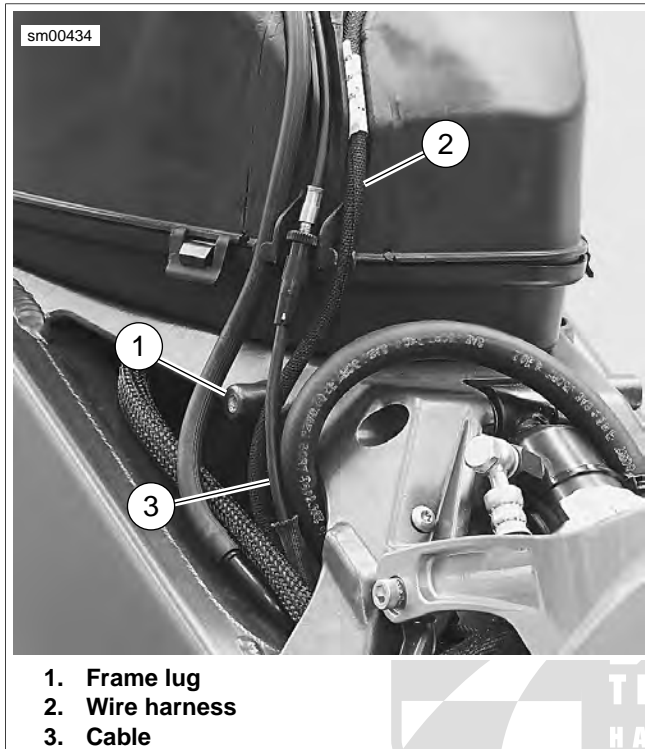

Figure 6-112. Correct Cable Routing Behind Frame Lug (Typical)
3. See Figure 6-112. Verify that the interactive exhaust wiring harness (2) is routed behind the frame lug (1) before installing air intake cover.